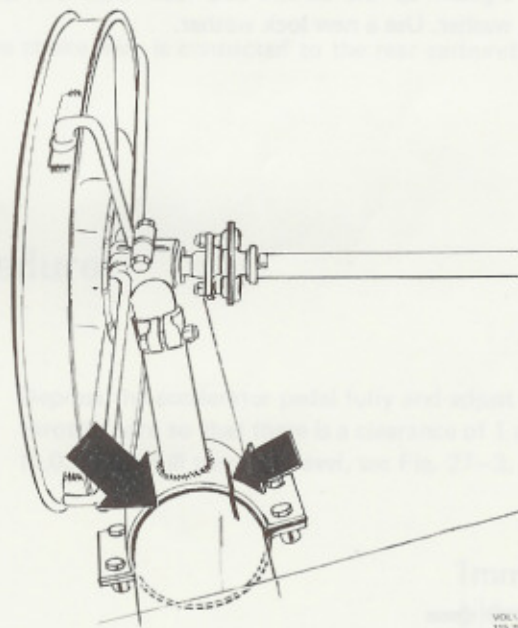

Fig. 26-11. Marking of fan bearing bracket
5. Mark up the location of the bearing bracket, see Fig. 26-11. **Note!** This must be done to ensure that the bearing bracket is re-installed in the correct position.